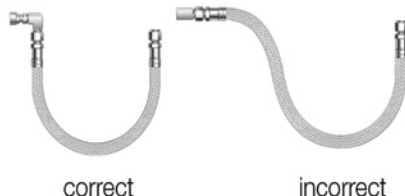

FIGURE 6. Not using elbows and adapters when necessary can also result in premature failure due to placing undue strain on the hose
- Failing to use elbows and adapters to relieve hose strain on horizontal end connections (Figure 6)